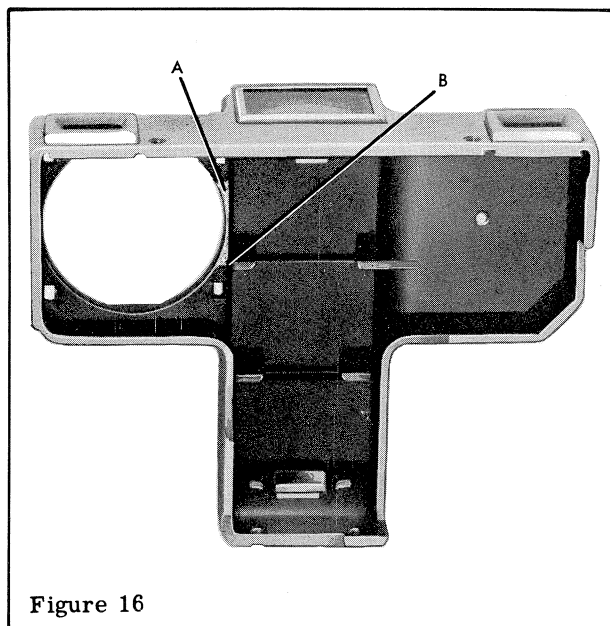
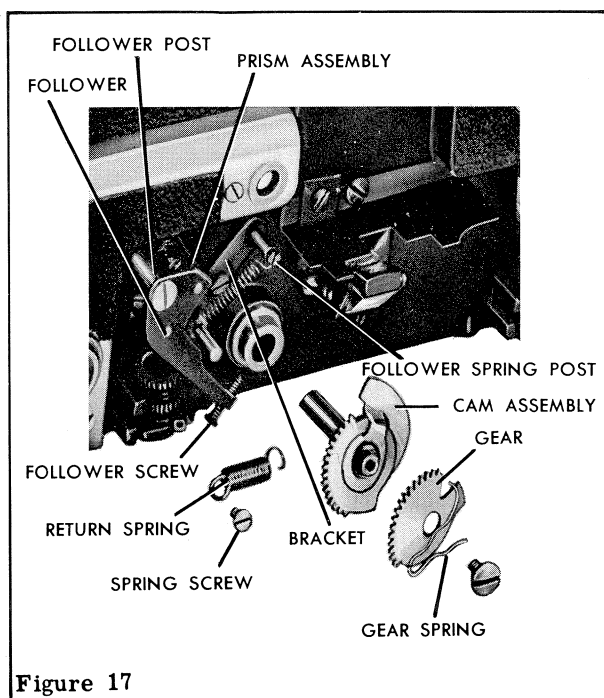

Figure 16
Figure 17
To allow clearance for the protruding end of the anti-back lash gear (figure 17), file the shoulder of the direct view finder cover between the points (A) and (B) as shown in figure 16, .045 for width of .437 (.218 each side of center). Tolerances are +.050 or -.000.
Attach one end of the cam return spring (figure 17) to the left front post of the objective lens mount assembly with the cam spring screw and the other end to the lip on the cam assembly.
Place the anti-back lash gear (figure 17) over the gear on the cam assembly. Be sure the anti-back lash gear fits tight against the cam assembly gear. If it does not fit tight, ream out the hole in the anti-back lash gear. Check for burrs on the gear by turning it on the cam assembly. Set the anti-back lash gear spring over the anti-back lash gear with the center loop of the spring over the end of the cam assembly shaft. Fit the short end of the spring against the protruding end of the anti-back lash gear and the long end of the spring against the gear and the cam assembly. Secure the spring in position with the spring holding screw. Turn the anti-back lash gear against spring tension (counter-clockwise) until three teeth of the anti-back lash gear extend beyond the first tooth on the cam assembly gear. Set the pinion on the post and mesh it with the teeth on the cam and anti-back lash gear.